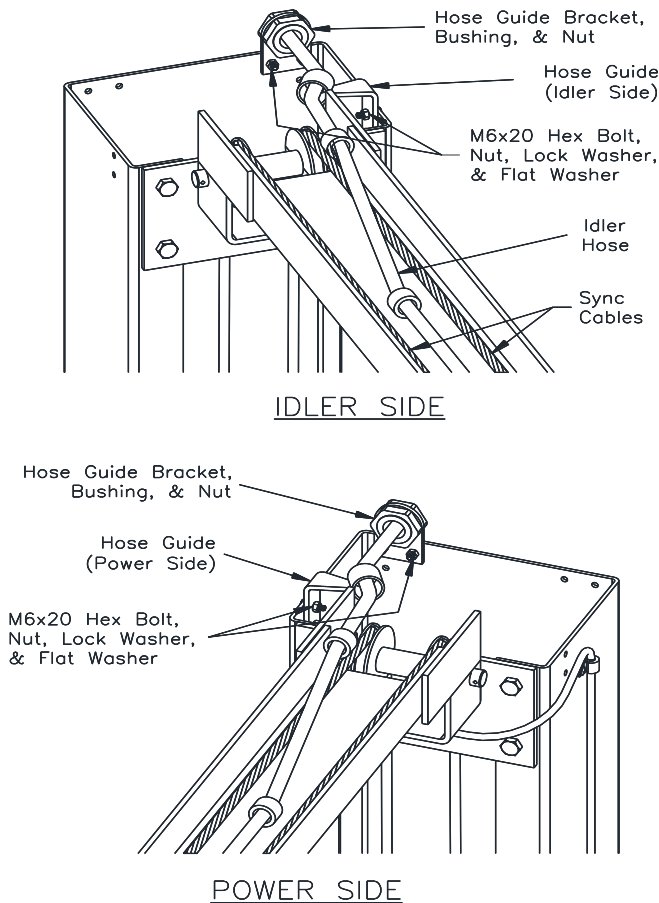

Fig. 8 – Column Extensions
- 25) Beginning on the idler side, attach the idler extension hose to the cylinder elbow fitting (This hose has a male fitting on one end and is removed for reduced height installations). Continue with the idler hose (long) up the backside of the column and thru the plastic guide at the top of the extension. Continue across the overhead through each of the guides as shown in **Fig. 8** and down the backside of the power column.
- 29) Use hardware shown in **Fig. 8** to install bolt-on hose guide components.